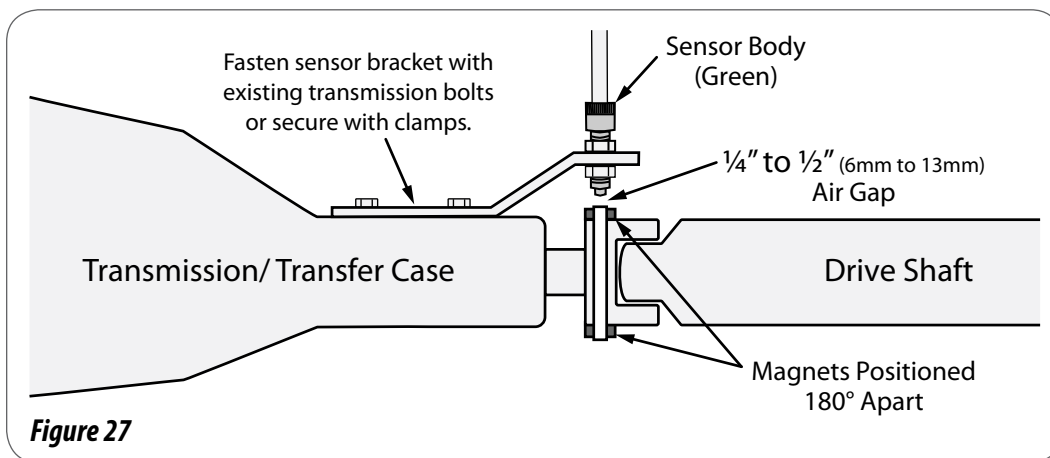

Figure 27
Determine the best location for the magnets on drive shaft according to which is the most practical spot to attach sensor mounting bracket. See figure 27. This position should be no more than 12" (.30 meters) behind the front U-joint. For best results, mount "L" bracket to transmission and mount magnets on drive shaft as close to transmission as possible. This will ensure proper alignment if drive train shifts under heavy loading.
- Attach sensor bracket to vehicle transmission. See Figure 27 below. Use either the short or long end of the bracket as a base.